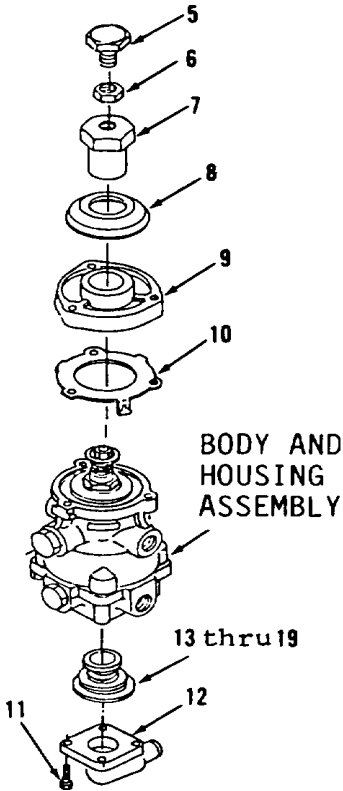

Figure 6-31.
1. Remove screw (5), nut (6), plunger (7) and boot (8, Figure 6-31).
2. Remove spacer (9) and retainer (10).
3. Remove four screws (11) and cover (12).
4. Remove items 13 thru 19 as an assembly from body and housing assembly.